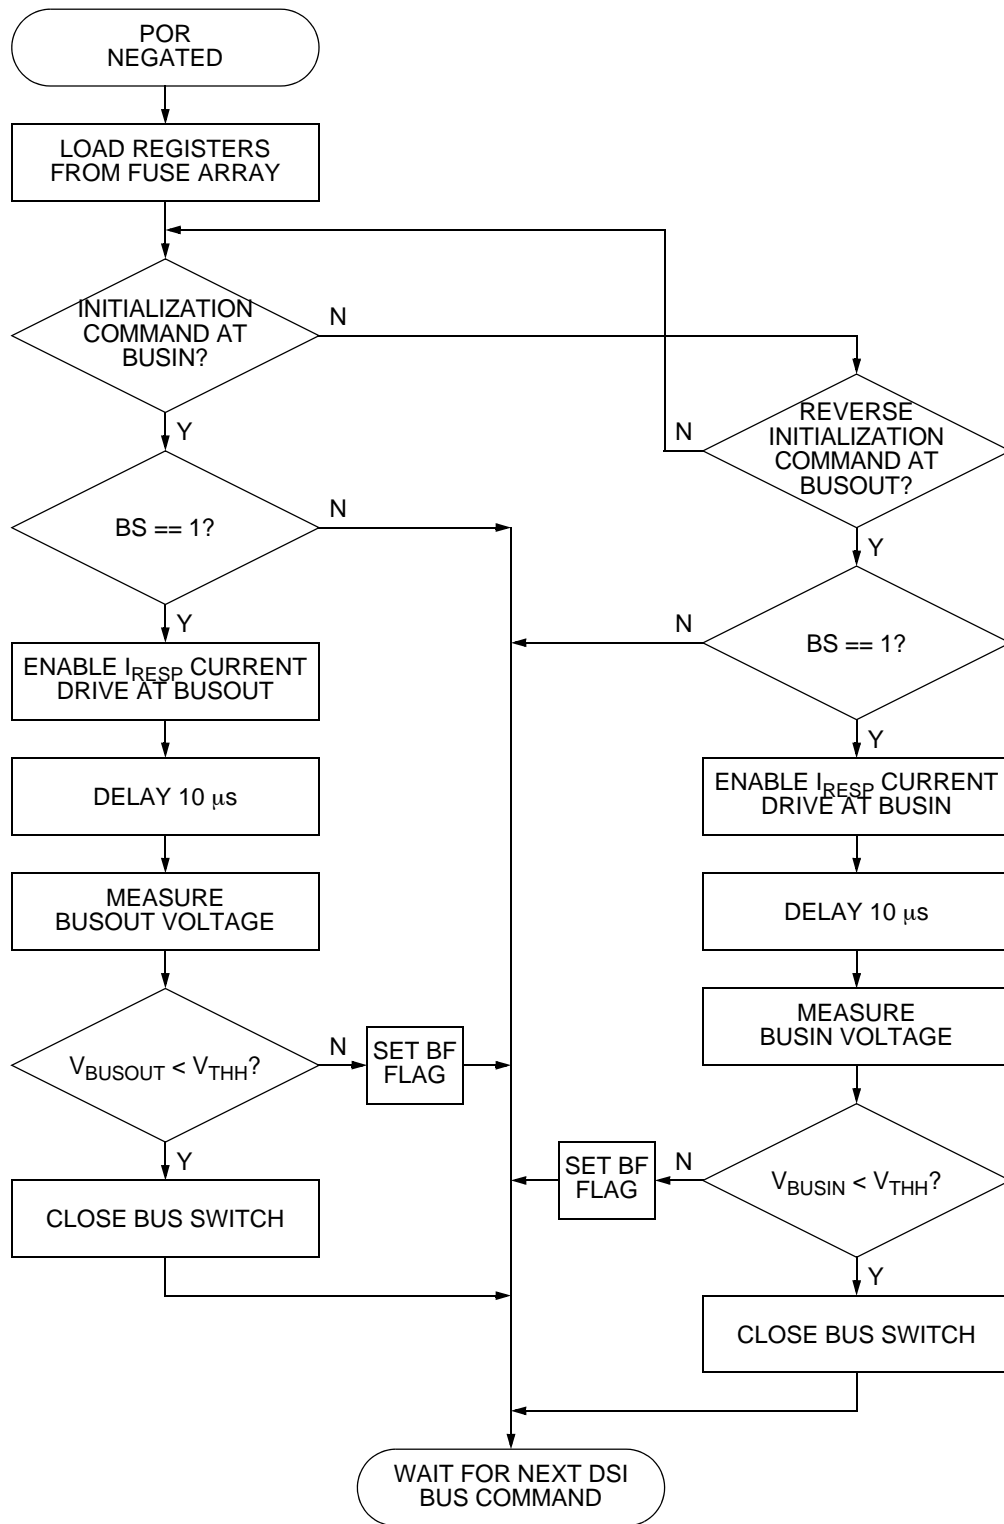

Figure 4-1. Initialization Sequence
Figure 4-1 illustrates the sequence of operations performed following negation of internal Power-On Reset (POR) and execution of a DSI Initialization command. Initialization commands are recognized only at BUSIN. The BUSOUT node is tested for a bus short to battery high voltage condition, and the Bus Fault (BF) flag set if an error condition is detected. If no bus fault condition is detected and the BS bit is set in the command structure, the bus switch will be closed. If the BS bit is set, the DSI bus voltage level is disregarded for approximately 180  $\mu$ s following initialization to allow the hold capacitor on a downstream slave to charge.